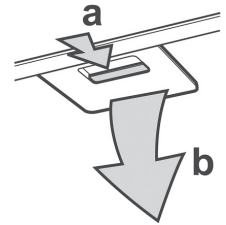

Fig. 1
1. Remove the metal filters (Fig. 1). If carbon filters are mounted, remove them.
1. Remove the metal filters (Fig. 1).